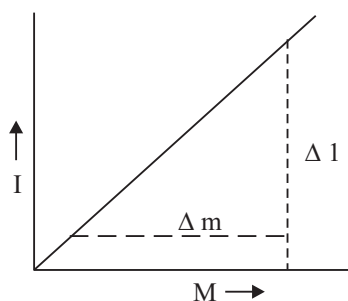

Fig. 8.2: Graph between M and I
- (iv) Plot a graph between extension l (on y-axis) and load M (on x-axis) (Fig 8.2). Draw the best straight line through the points plotted and the origin, which is also an observation - zero extension for zero load.